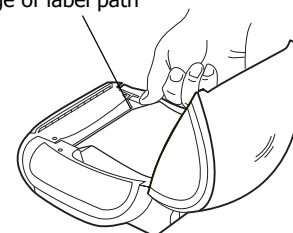

Figure 4
- The labels must be loaded with the left edge of the label inserted against the left edge of the label feed slot. See Figure 4.
- 7 Align the left edge of the label with the left edge of the label feed slot and insert the label into the slot. See Figure 4.